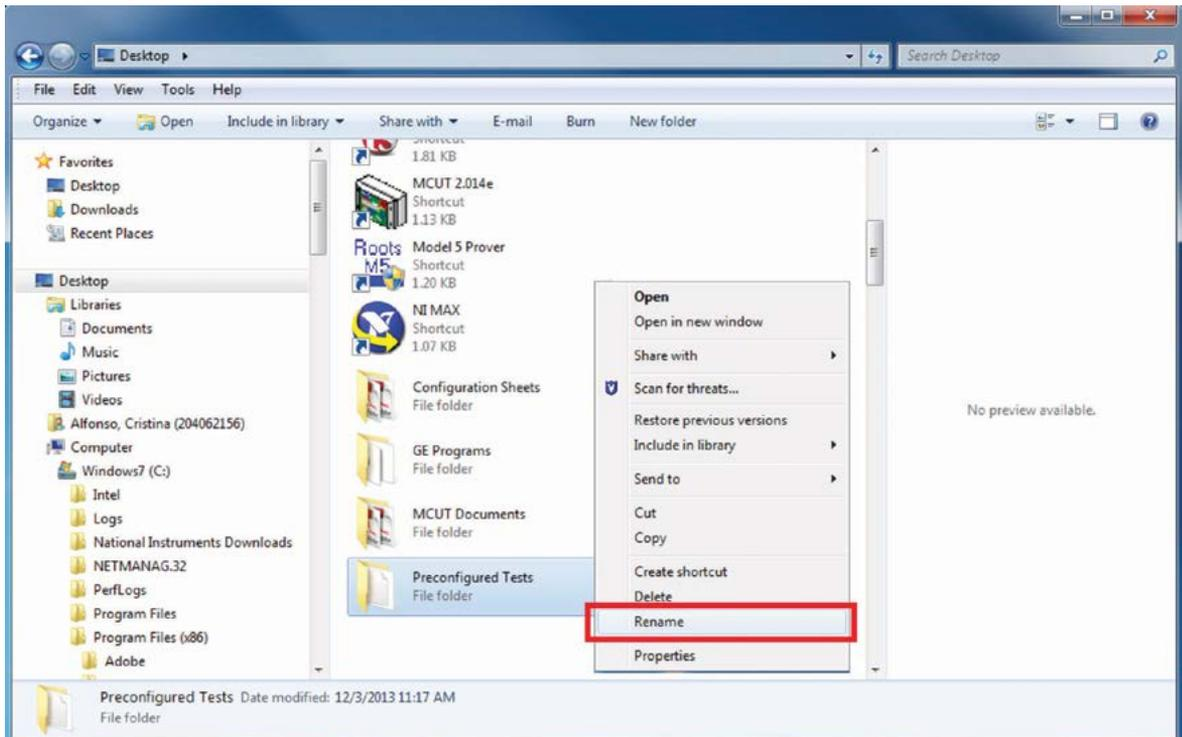

Figure 21: Insert New Folder Name
21. Rename the folder. Right click on the folder and select “Rename”. Enter another name for the folder. Using the word “Backup” and the date for easy identification in the future. Refer to **Figure 21**.